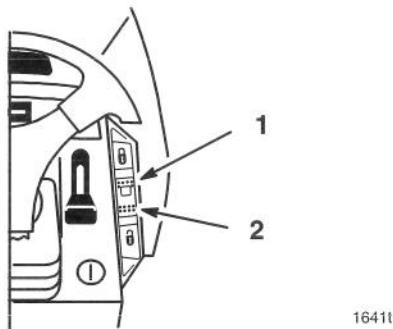

Figure 13
The cruise control is optional on some models. A 3 position: Lock-Set (spring loaded), On and Off-Unlock dash switch (Fig. 13) controls the engagement. Cruise control maintains the traction control position without foot pressure. Cruise control is intended for operation in the forward direction only. Do not use cruise control in reverse.
1. Begin driving tractor: Refer to Driving Forward or Backward, page 15. While holding your foot steady on the traction control, push the cruise control switch (Fig. 13) to the “LOCK”-“SET” position.
1. While holding your foot steady on the traction control, move the cruise control switch (Fig. 13) to the “UNLOCK”-“OFF” position.